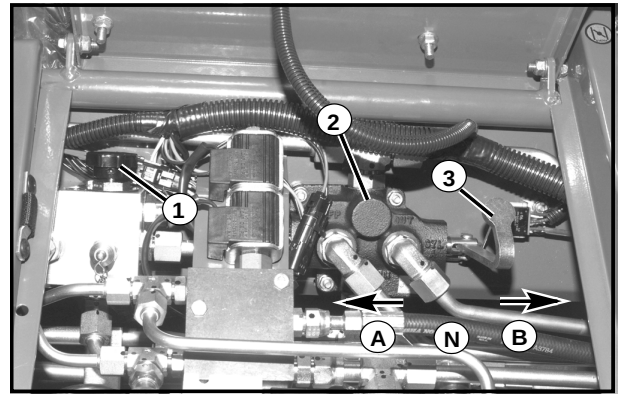

Figure 6.6.1
1. Open the restriction valve on the reel valve by turning the knob counterclockwise as far as it will go (See Fig. 6.6.1).
2. Set the reel control lever to the right for the backlap position (See Fig. 6.6.1).